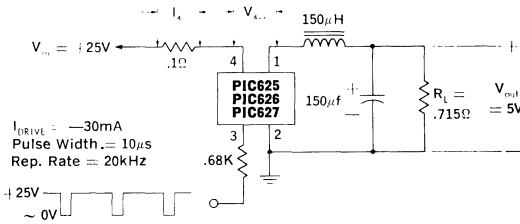

Figure 1. PIC625, 626, 627 Switching Speed Circuit
- The efficiency is a measure of internal power losses and is equal to Output Power divided by Input Power. The switching speed circuit of Figure 1, in which the efficiency is measured, is representative of typical operating conditions for the PIC600 series switching regulators.